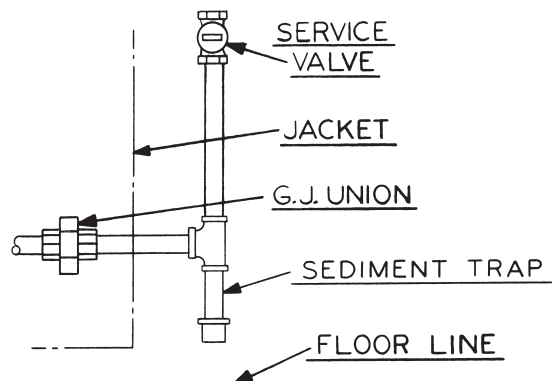

Figure 5.1: Gas Connection to Boiler
5. Install a sediment trap. See Figure 5.1. Locate a tee in the drop pipe at same elevation as the gas inlet connection to the boiler. Extend the drop pipe to a pipe cap.
6. Install a ground joint union ahead of the gas control assembly to permit servicing of the control. Some local codes require an additional service valve when using the combination gas controls. If your code requires such a valve, a suggested location is shown in Figure 5.1.